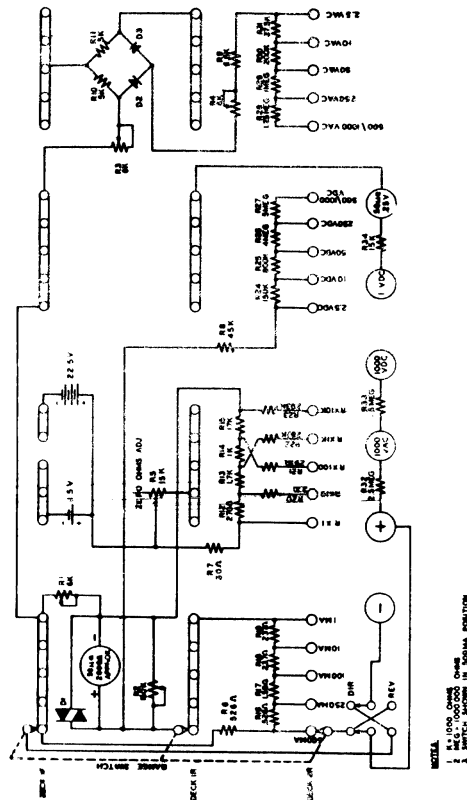

Figure 7-1. Schematic Diagram
5.1.1 The taut-band indicating instrument used in the 160 responds linearly to direct current and requires less than 50 microamperes to cause full scale deflection. The indicating instrument and its associated calibration network, R_1 and R_2 are adjusted accurately to an equivalent circuit resistance of 5000 ohms. The resulting basic metering circuit, after calibration, requires precisely 50 microamps at 0.25 volts for full-scale deflection. The diode network, D_1 shown in the schematic diagram (Figure 7-1) provides an effective shorting path for metering signals appreciably in excess of full scale. The network can bypass excessive currents as high as several hundred milliamperes continuously, thereby affording considerable protection to the indicating instrument.